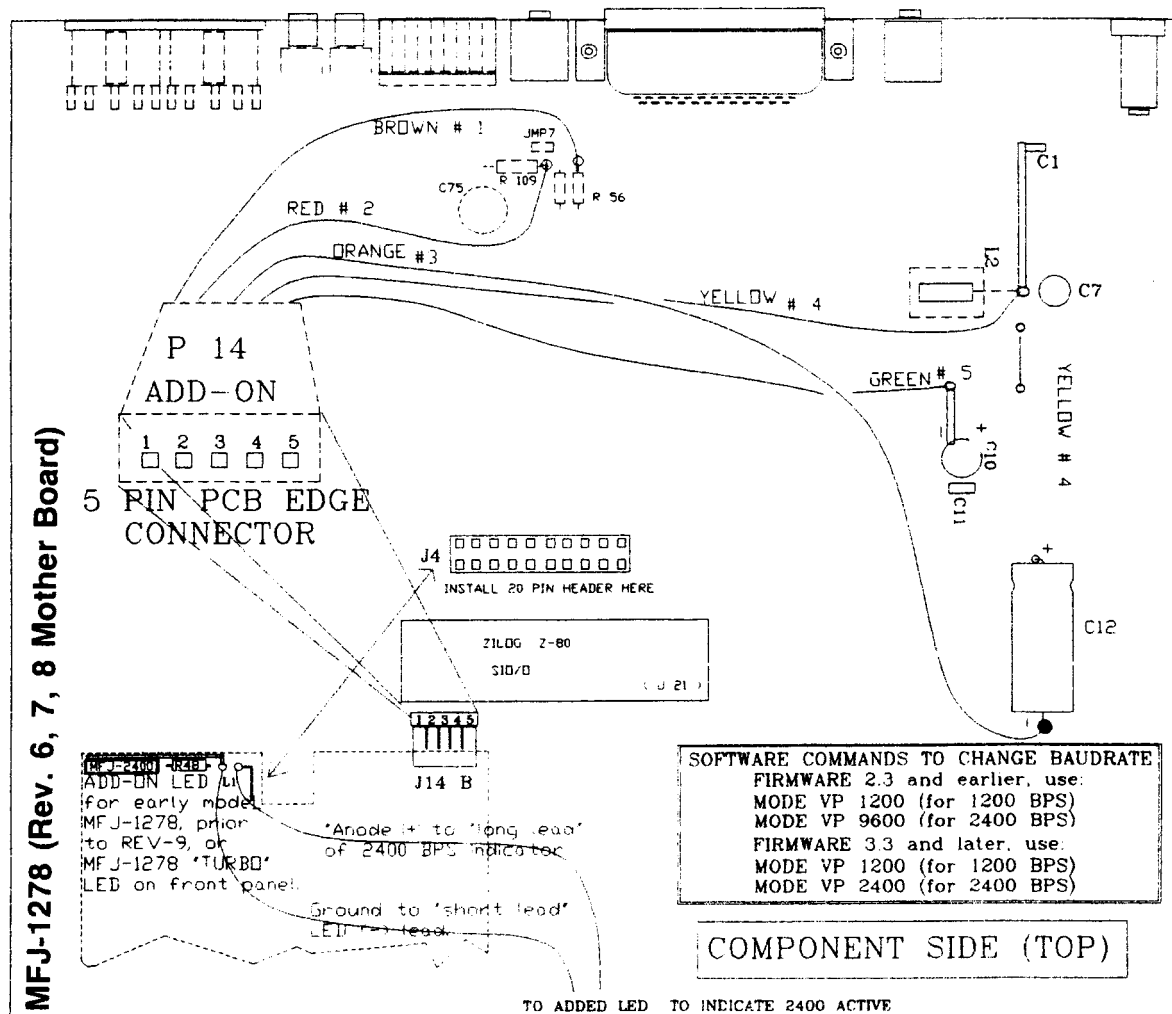

FIGURE 4
B. INSTALLING THE 5 PIN I/O CONNECTOR: Refer to FIGURE 4
Prepare the five wires by removing 3/32 inch of insulation from the free ends. Tin each of the bare ends with solder to prevent fraying of the wires, and to make it easy to solder to the five locations shown in FIGURE 4.
Solder the wires to the points shown in the accompanying drawing. The wiring is easy as 1, 2, 3, 4, and 5 since the wires follow the standard color code. (SEE FIGURE 4)
Connect the correct color wire to indicated in FIGURE 4.
Included in the MFJ-2400 modification kit is an LED which can be added to the front panel of the MFJ-1278. The LED and pictorial drawing is supplied with the kit (FIGURE 4). The 2400 BPS "LED" installation is a user option. The location of this LED is the users choice, however our experience shows that a small hole the size of the LED just above the "STA" LED is adequate. This LED will illuminate when the TNC is in the 2400 BPS mode, to give the user an indication that 2400 BPS is "active". Connect the LED to the location marked "L1" on the modem PCB. See FIGURE 4.